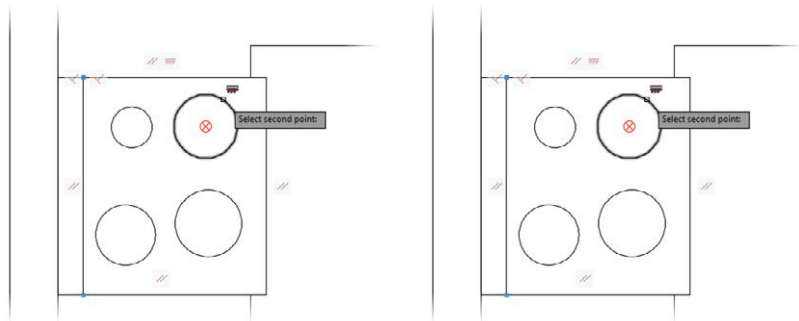

FIGURE 5.50: Using the Horizontal constraint to select the center point of the circle
5. Hover over the top-left burner, and select it when a small red circle with an X appears in the center, as shown on the left in Figure 5.50.
6. From the **Select** second **point:** prompt, use the same method to select the center point of the top-right burner, as shown on the right in Figure 5.50.